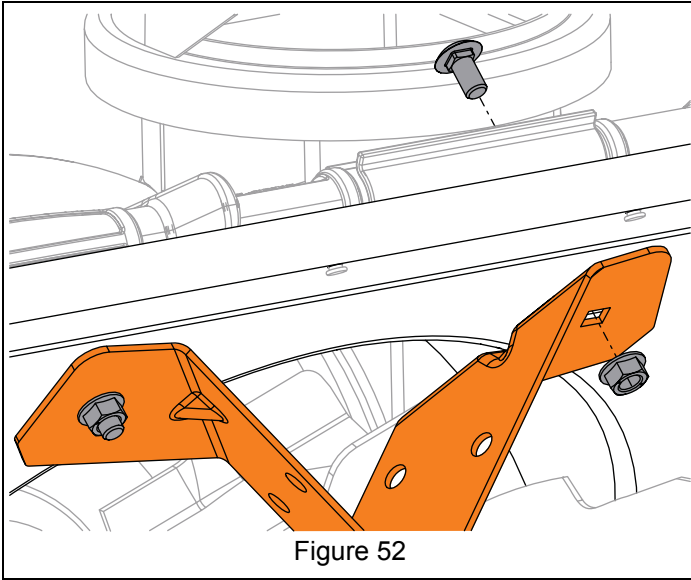

Figure 52
- Secure support brackets to auger housing with two round head square neck bolts and two top locking flange nuts. See Figure 52.